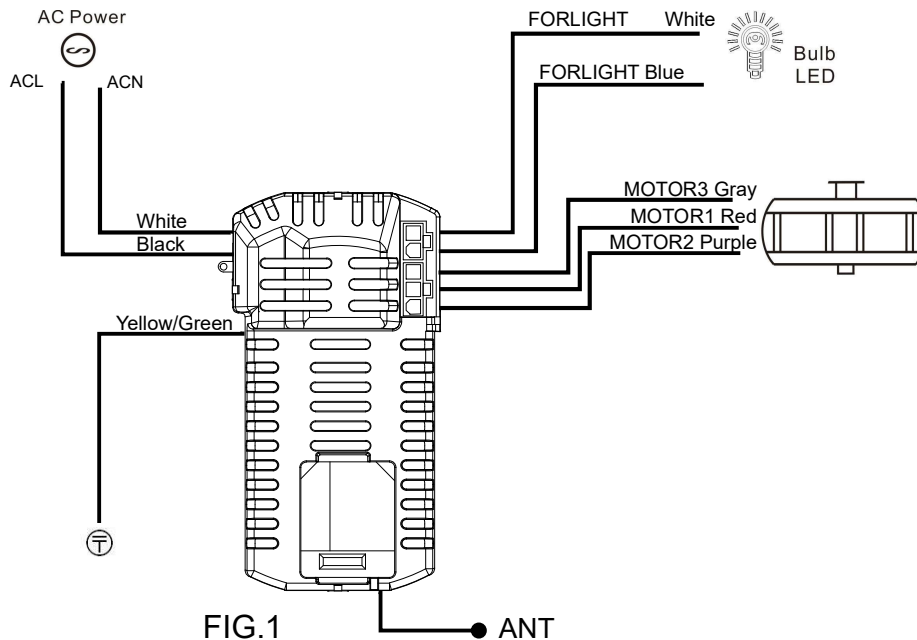

FIG.1
2. Take wiring connections as indicated FIG. 1.